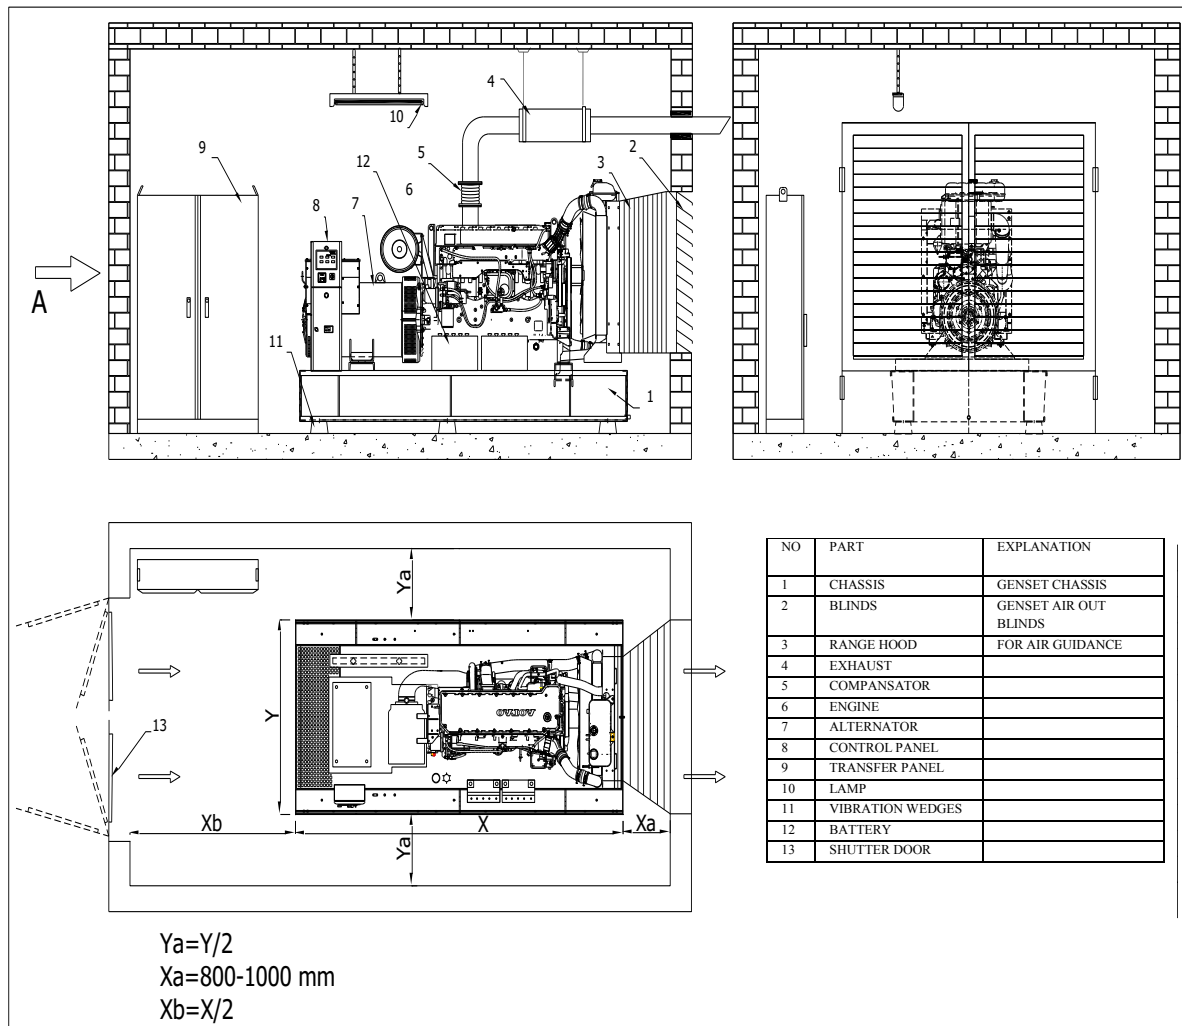

Figure 2
* The generator group should be installed in a proper way by considering the distance between the generator group and walls as seen in following Figure: 2. The aim is to draw cool air from the possible lowest section of the generator room's walls and push towards the radiator and then put out from generator room.